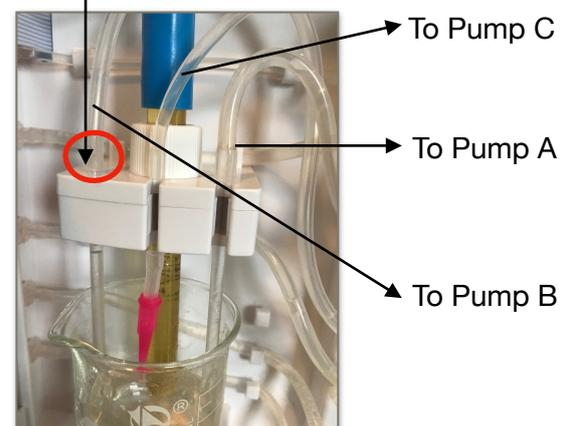

Figure 2a
5) Cut the **hose 3.2mm** in a proper length. Connect one end of this hose to the outlet **"Alk Out (5)"**, and lead that hose to a sump area with ample circulation.
8) **Make sure the pipes inside the machine are in proper position!! The premounted silicon hoses on the pipes should be in contact with the pipeholder, and in that way guarantee correct positions. Ensure the following pipe-positions (fig 2a,2b):**